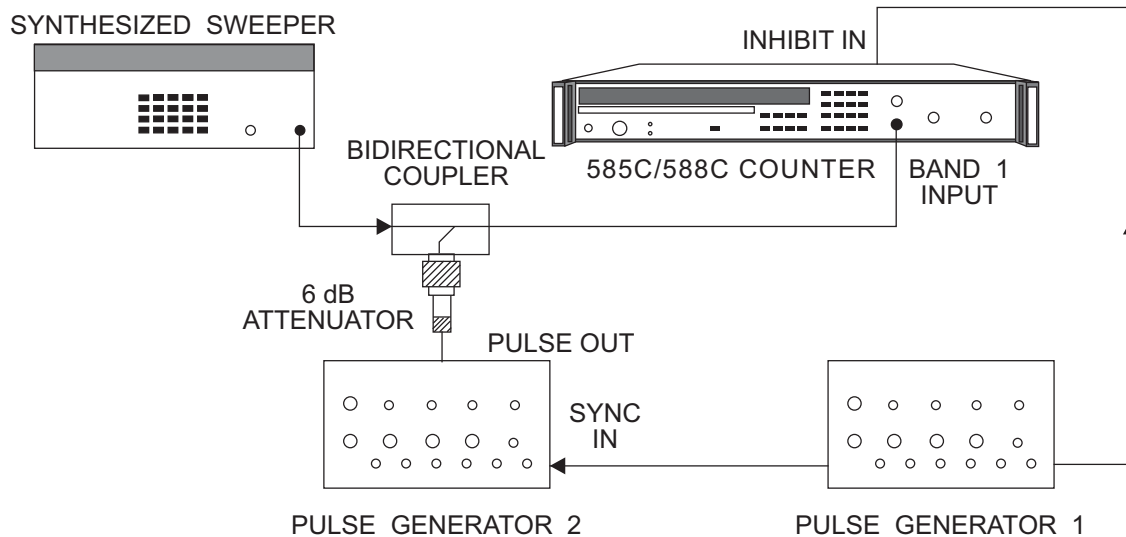

Figure 6-16. Band 1 Maximum Video Test Setup
1. Connect the equipment as shown in Figure 6-16, and turn the equipment on.